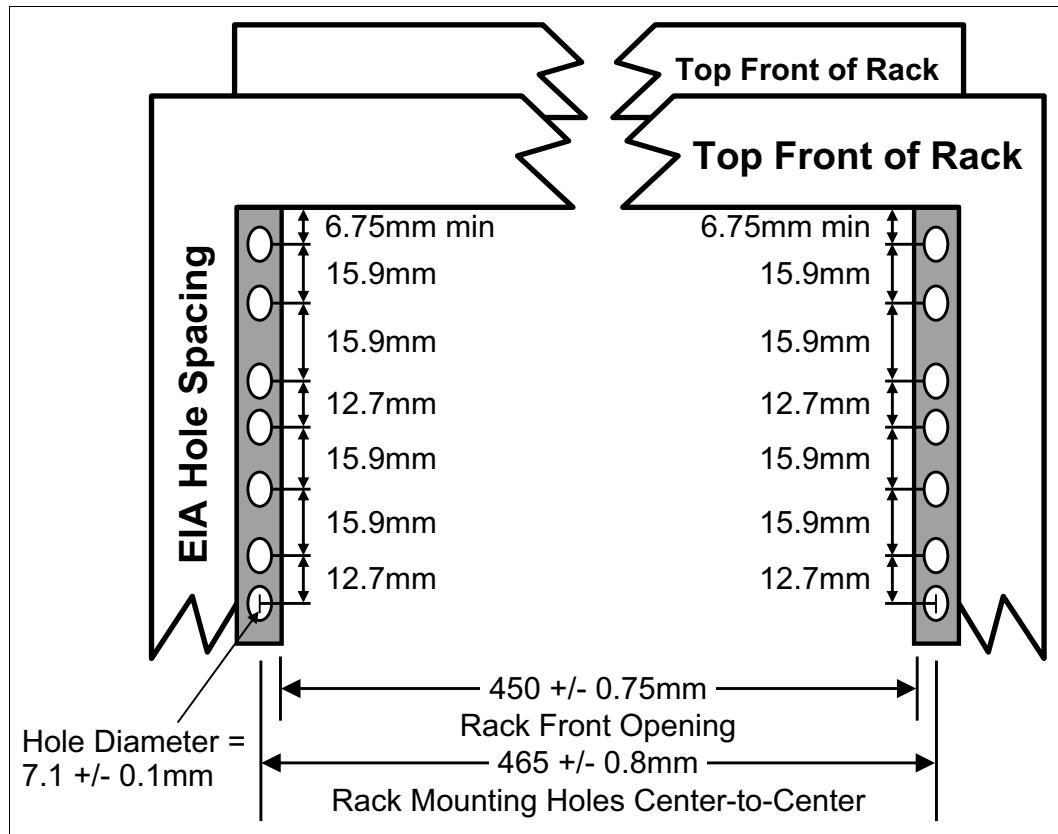

Figure 1-11 Rack specification dimensions - top front view
- The vertical distance between the mounting holes must consist of sets of three holes spaced (from bottom to top) 15.9 mm (0.625 in.), 15.9 mm (0.625 in.), and 12.67 mm (0.5 in.) on-center, making each three-hole set of vertical hole spacing 44.45 mm (1.75 in.) apart on center. Rail-mounting holes must be $7.1 \text{ mm} \pm 0.1 \text{ mm}$ (0.28 in. \pm 0.004 in.) in diameter. Figure 1-11 shows the top front specification dimensions.